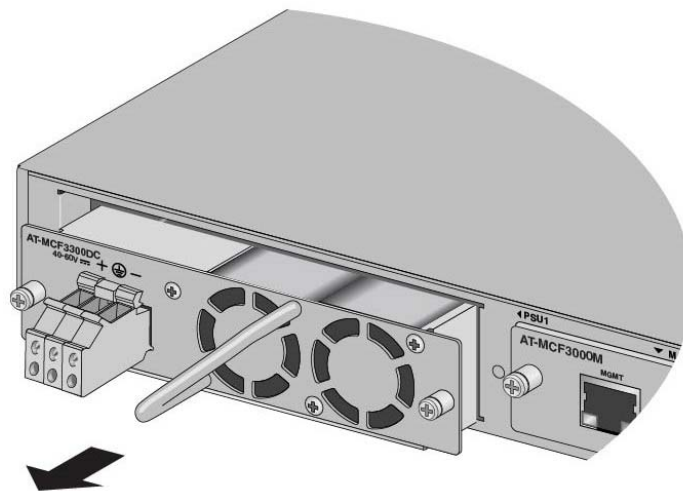

Figure 75. Pulling on the Handle to Disconnect the MCF3300DC Power Supply from the Chassis
6. Pull on the handle to disconnect the power supply from the backplane connector inside the chassis. Refer to Figure 75.